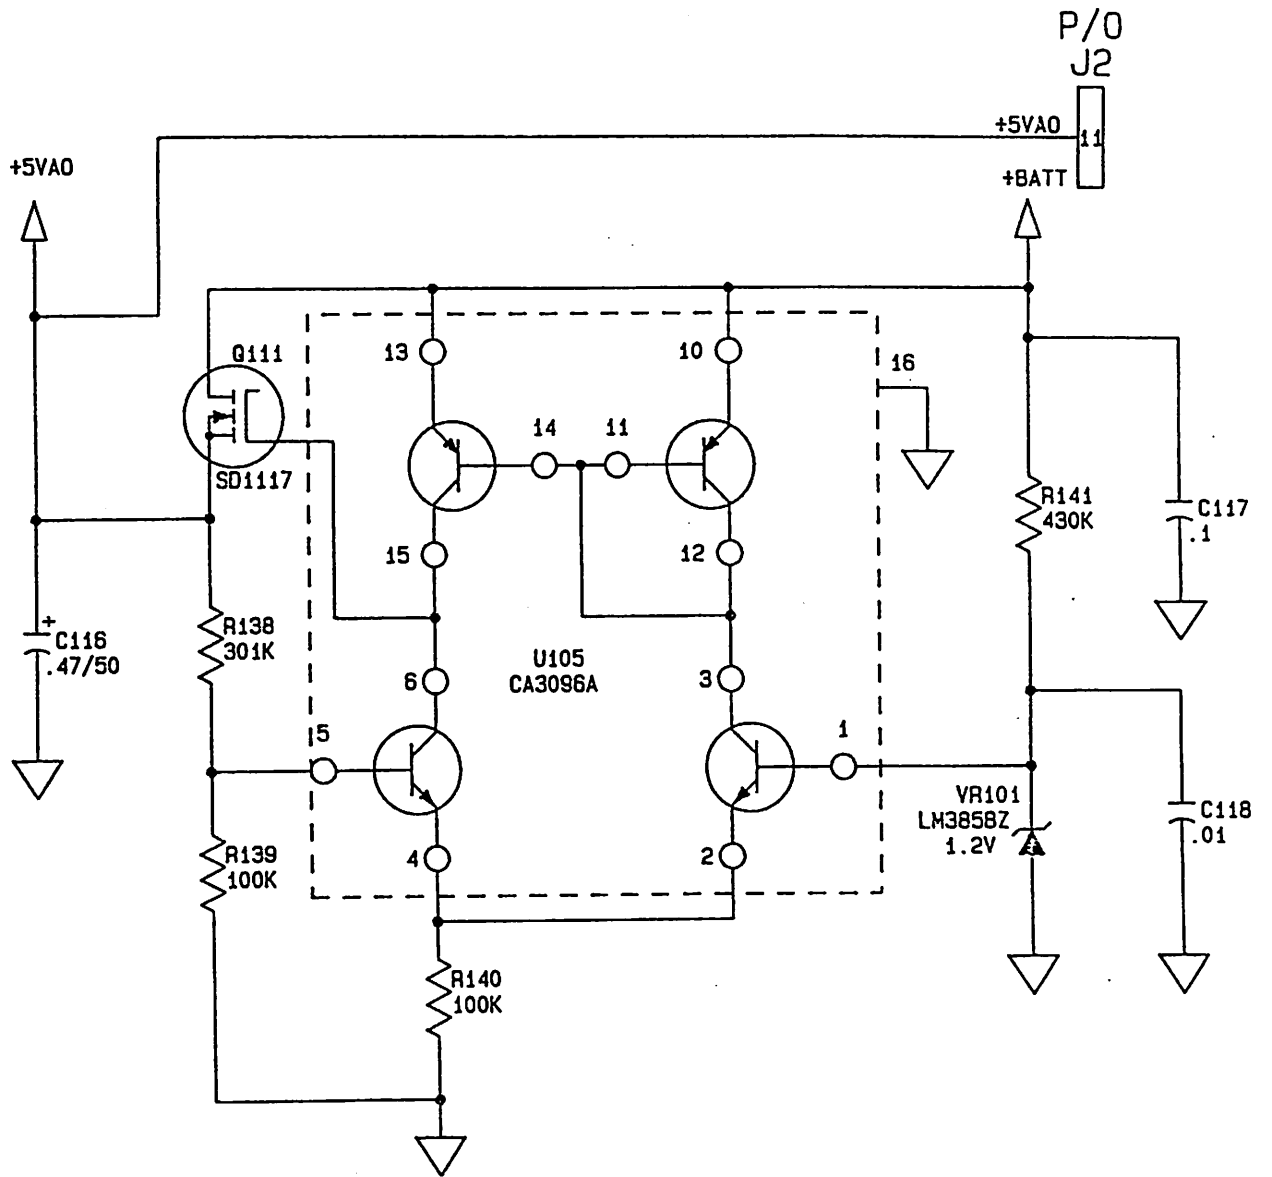

Figure 3-31. +5V Always-On Supply
3.9.10 +5 Volt Always-On Supply (+5VAO, figure 3-31)